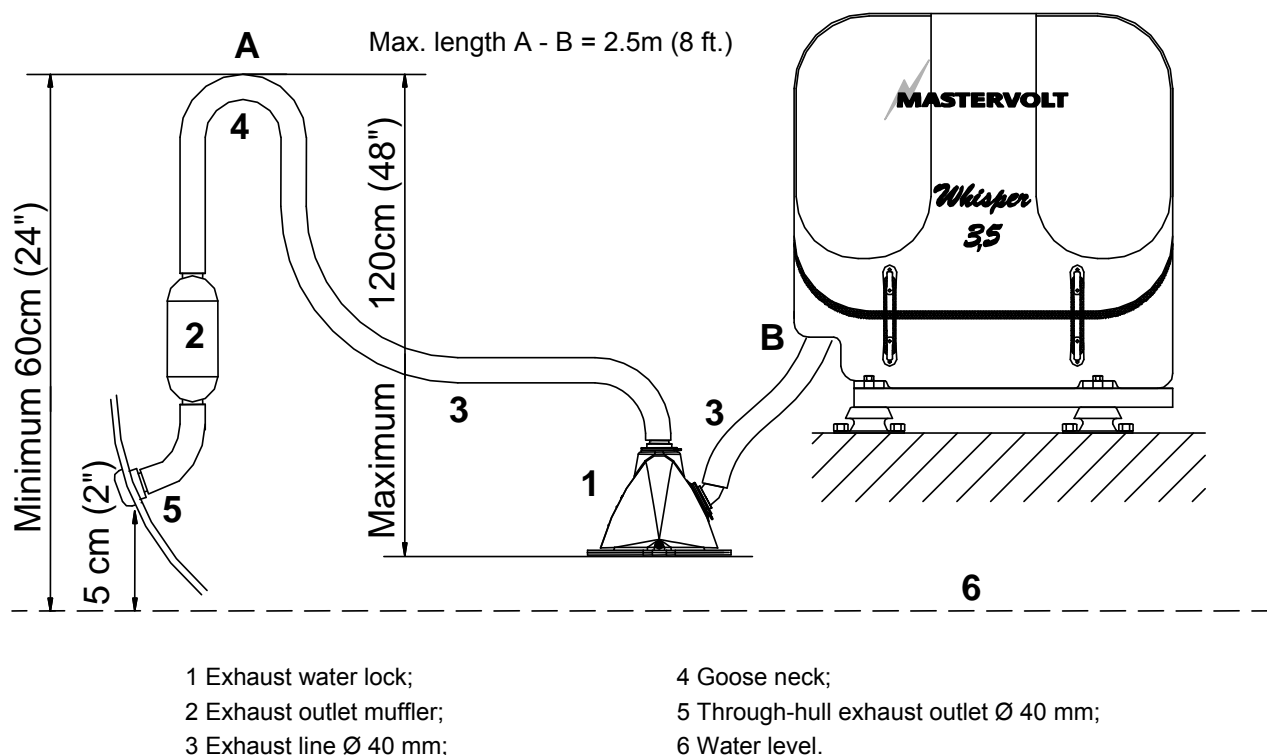

Figure 9: Standard exhaust system
The generating set exhaust system must remain completely independent and separate from the exhaust system of any other engine on board. A water lock prevents the generating set from being flooded by cooling water and should be installed as close to the generating set as possible. The lock must be large enough to hold the entire water volume held in the hose from the top of the goose neck to the water lock. The water lock must be installed at the lowest point of the exhaust system (ref. to figure 9, ref. 1). The exhaust hose must have an inner diameter of 40 mm no less, no more-. The exhaust system must be installed so that the back pressure inside the exhaust does not exceed 0,8 psi 60 cm. waterpressure
(refer to paragraph 5.4.3 of the users manual) and total length up to the outlet or water separator does not exceed 2,5 m. The exhaust hose descends from the capsule to the water lock. Then the hose rises maximum lift 120 cm via the "goose neck" to the through-hull exhaust outlet, situated minimum 50 mm above the water line (refer to figure 9, ref. 5). The "goose neck" must be vertical and situated preferable along the ship's keel center line. It is recommended to install an extra muffler (see figure 9, ref. 2) close to the through-hull fitting.